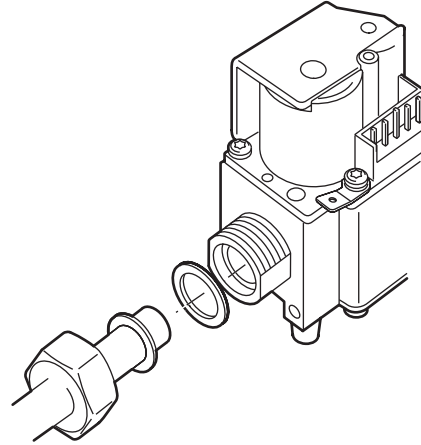

Fig. 7. External thread connection with nut and "O"-ring
- ❹ With nut and "O"-ring (see fig 7.)